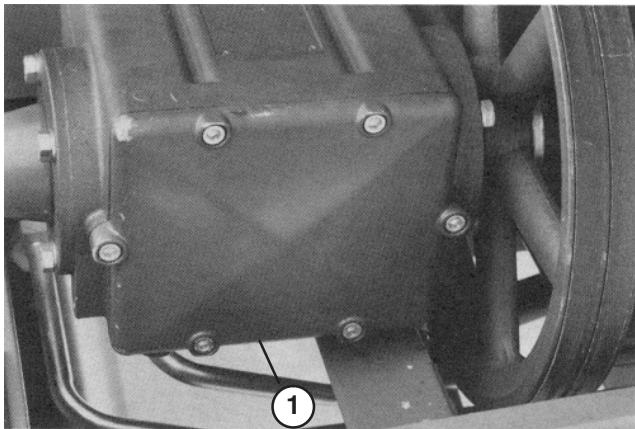

Figure 30
- Place a drain pan under the pump case. Clean the area around the drain plug on the bottom of the case (Fig. 30).